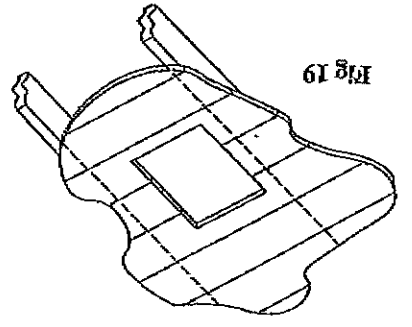

Fig 19
5. Remove shingles or other roof covering as necessary to cut the rectangular hole for the Support Box. Cut the hole 1/8-inch larger than the dimensions of the Support Box. (Figure 19). The rectangular hole should be centered on the small hole which you drilled through the ceiling to mark the location. Again, verify that you are not cutting through rafters or framing members.